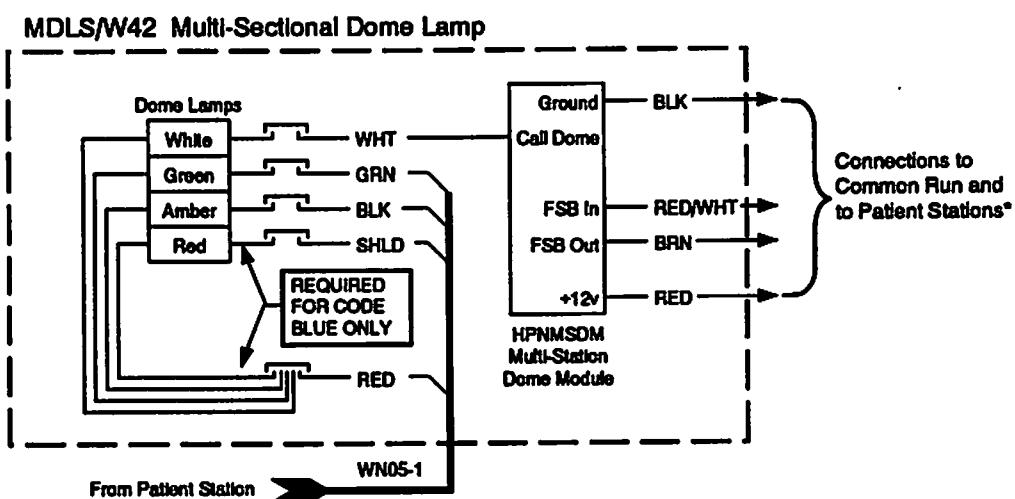

Figure 3. Connections for Multi Station Dome Module
- b. If more than one station is connected to the dome lamp, connect the HPNMSDM Multi Station Dome Module as shown in Figure 3.